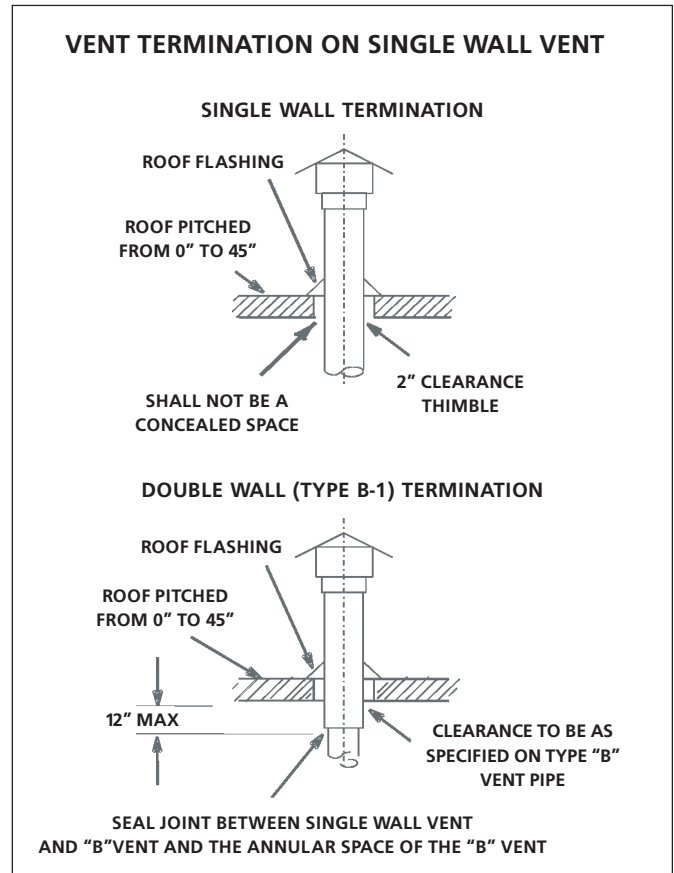
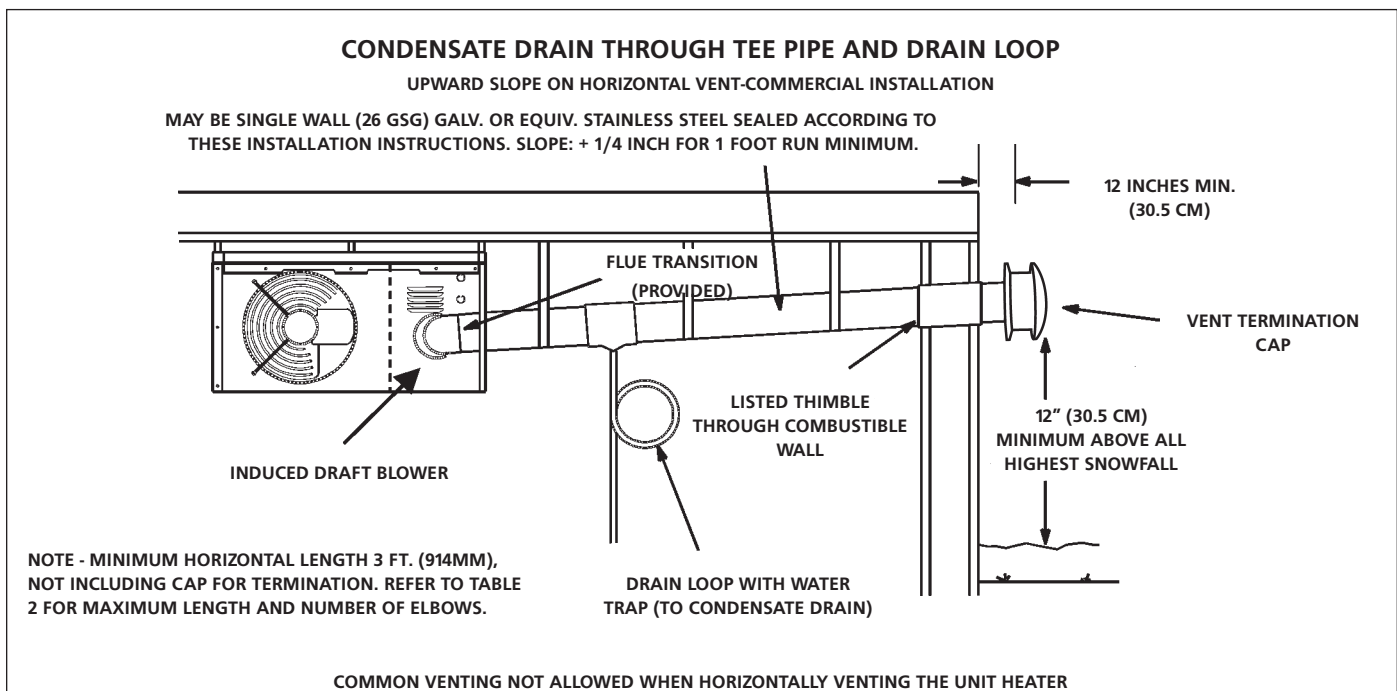

FIGURE 2
FIGURE 3
1. MHU/HSU unit heaters are to be used with NFPA- or ANSI-approved chimneys, U.L. listed type B-1 gas vents, single wall metal pipe, or listed chimney lining system for gas venting where applicable, as well as the modifications and limitations listed in **figure 2**. Seal single wall vent material according to the section **A - General Recommendations and Requirements**.
- When termination is routed through an exterior combustible wall the vent must be supported using a listed clearance thimble. Where local authorities permit, a single section of type B-1 vent pipe may be used as an alternative to the thimble. When using a type B-1 vent termination use the clearances specified by the vent manufacturer. Seal the connection between the single wall and double wall pipes and the annular space of the double wall pipe as shown in figure 2. Inside edge of vent termination tee must be at least 12 inches from outside wall as shown in **figure 3**.
- Horizontal commercial installations are for buildings which are not attached to living spaces. The vent may be single wall vent material installed according to the sections **Venting A - General Recommendations and Requirements** and **C - Horizontal Venting General** and **D - Horizontal Venting - Commercial**. Refer to **figure 3**.